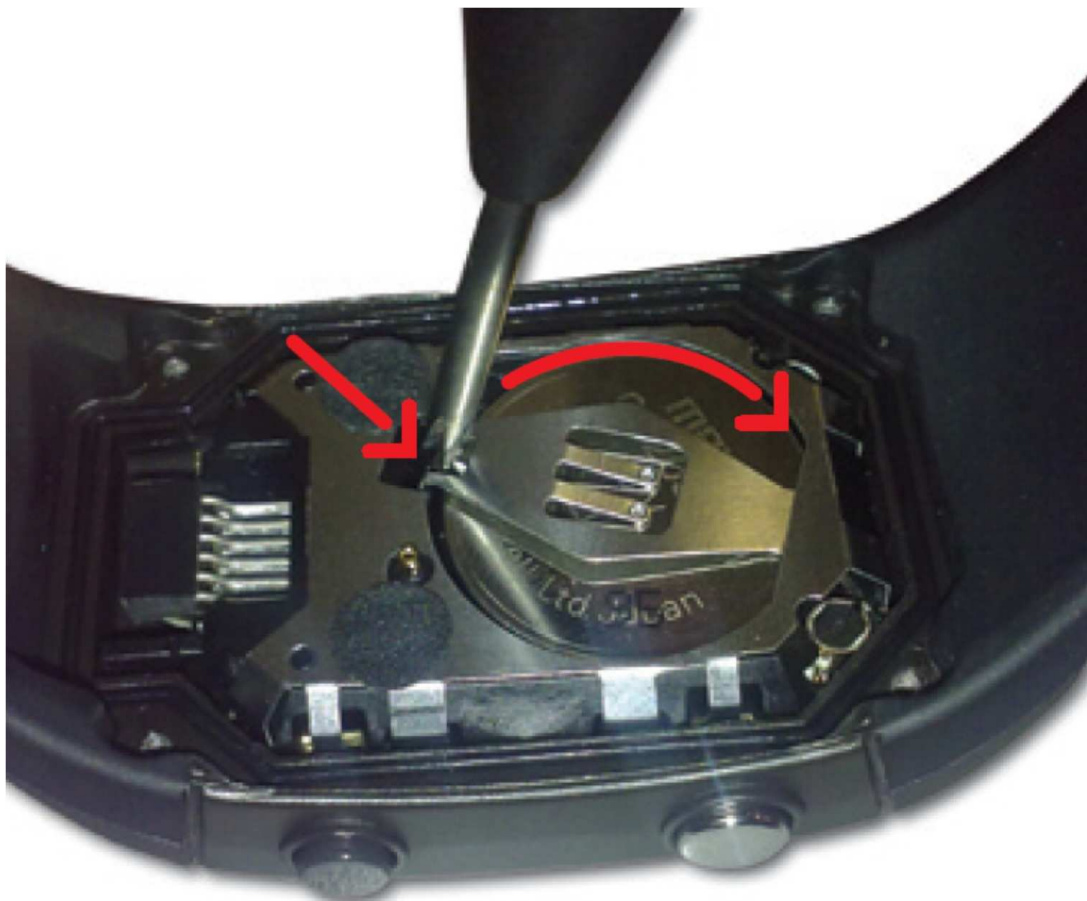

Figure 4-2. Removing Watch Battery
4. Remove battery before connecting the module to the emulator. Place screwdriver tip between battery and battery holder (small metal tab) and push the tab, away from battery (see Figure 4-2). Detailed instructions are shown in the Chronos Disassembly/Assembly video on www.ti.com/chronoswiki.